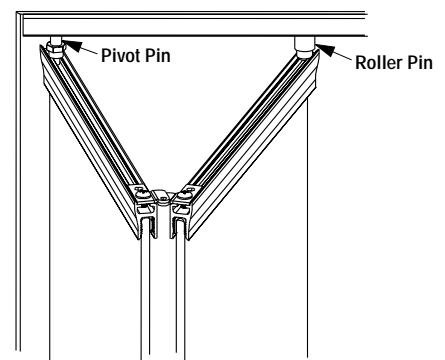

Figure 8
Step 4. Starting with either the right or left door assembly. Engage the hinge pin into the hole in the clip within the top door channel. The roller pin must be positioned within the upper door guide track (Figures 8 and 9).